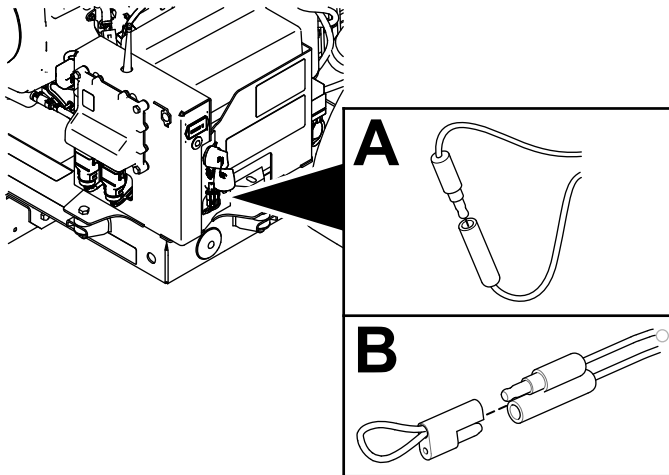

Figure 46
2. Remove the single-pin connector from the single-socket connector (Figure 46).
3. Plug the single-pin connector and the single-socket connector into tethered cap (Figure 46).